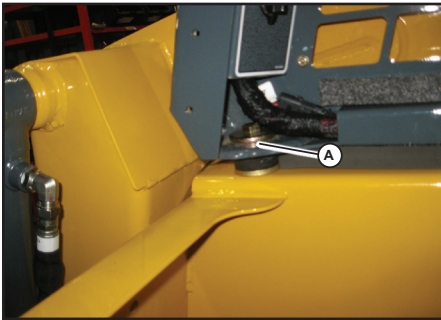

Fig. 31 - ROPS/FOPS Anchor Fastener
Always secure the ROPS/FOPS to the chassis with anchor bolts and washers (A, Fig. 31) before driving or using the machine.
2. Remove anchor bolts and washers (A, Fig. 31) securing the front of the ROPS/FOPS to the chassis.